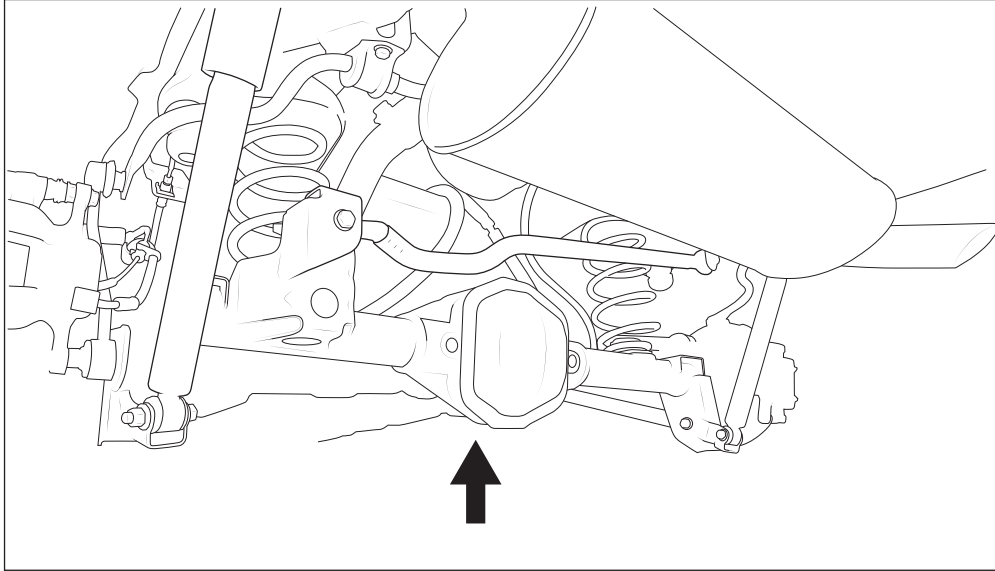

Figure 1
1. Raise Jeep and support the frame using jack stands or a hoist, such that the rear axle can be lowered enough to remove the springs. Support the axle by placing the floor jack under the center of the axle. Remove the wheels. (Fig. 1)